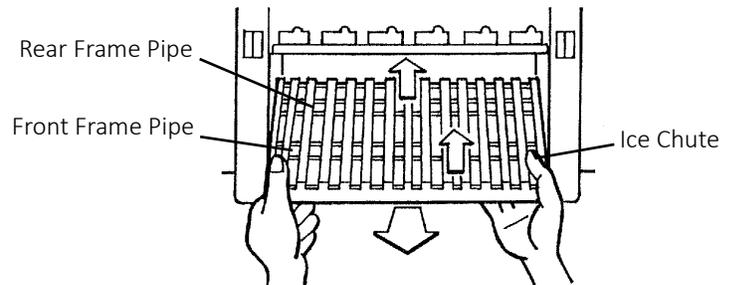

Fig. 31
6. Lift off the ice chute from the frame pipe and then from the rear frame pipe. See Fig. 31.
2. Close the water supply line shut-off valve, then open the water supply line drain valve. See Fig. 31.